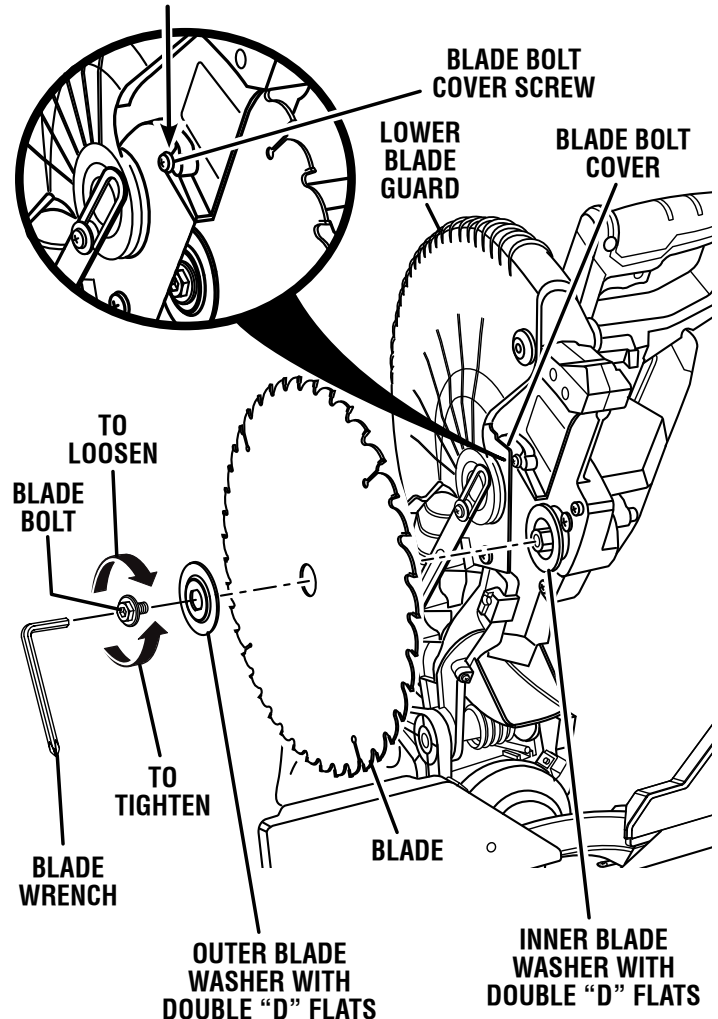

Fig. 12
See Figure 12.
- Fit saw blade inside upper blade guard and onto spindle. The blade teeth point downward at the front of saw as shown in figure 12.